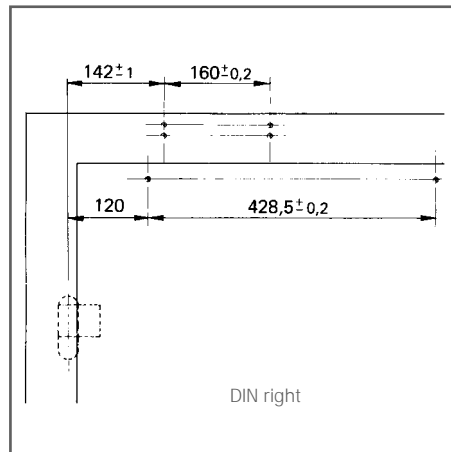

Fig. 31
Mounting dimensions for right hand door, see Fig. 31
- ▶ Installation according to Fig. 31 or 32 and cross section A with mounting plate